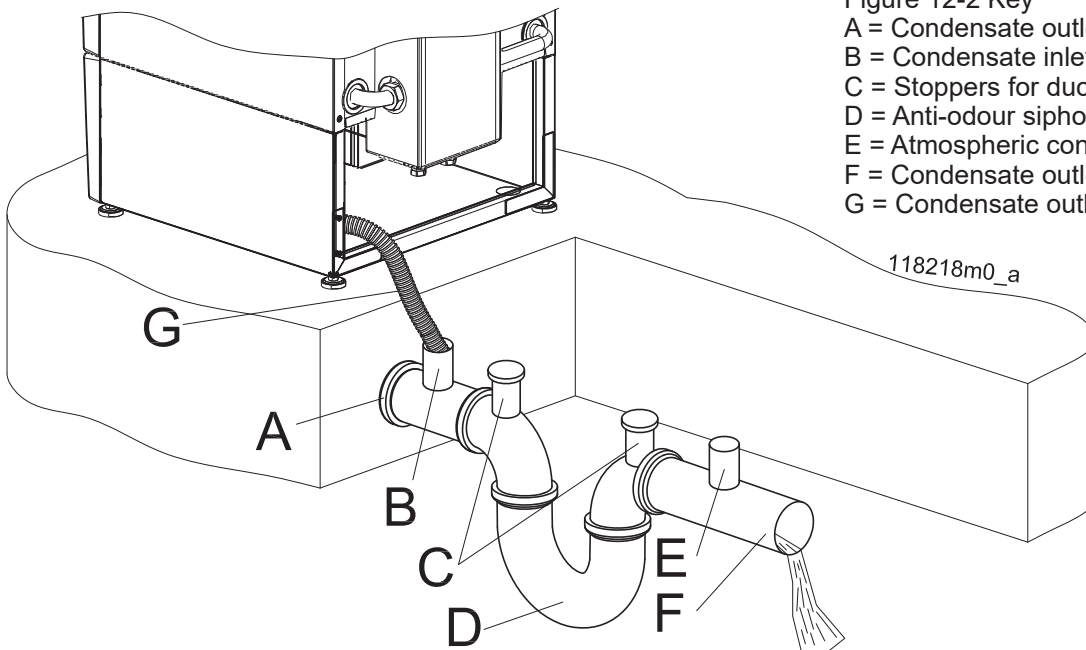

Figure 12-2 Key
- Figure 12-2 shows how a condensate disposal system must be created downstream from the boiler.